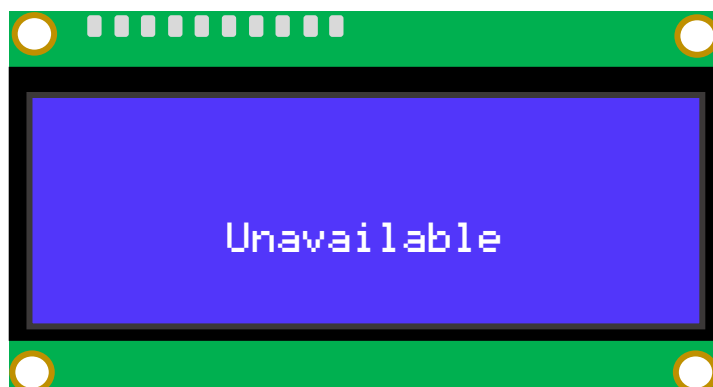

Figure 10 Unavailable Due to OTA Software Updates.
3. When the charger gets an OTA software update. It will show the status "Unavailable" on the screen. (*Figure 10*)